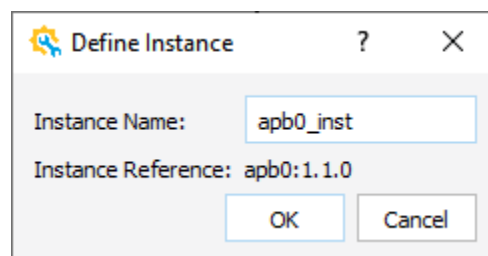

Figure 2.66. Define Instance Dialog Box
2. Right-click on the component you want to restore, and choose **Instantiate**. The Define Instance dialog box (Figure 2.66) open.